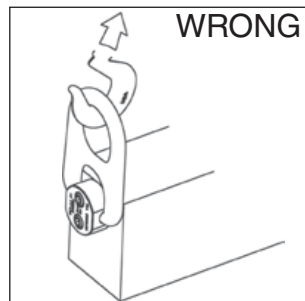
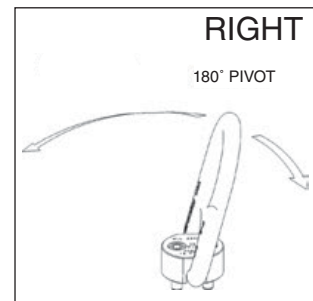

Figure 2
Figure 4
- Apply partial load and check proper pivot. Ensure load alignment is in the direction of pivot (Figure 4). There should be no interference between load (workpiece) and pivot hoist ring bail (Figure 2).